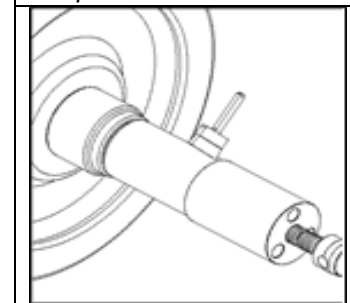

Figure 18 – Lubricate Bearing Seats
- 5.3.3 Coat the bearing seats of the axle with castor oil, heavy mineral oil, a Molykote and oil mixture, or as directed by the bearing manufacturer (Figure 18).